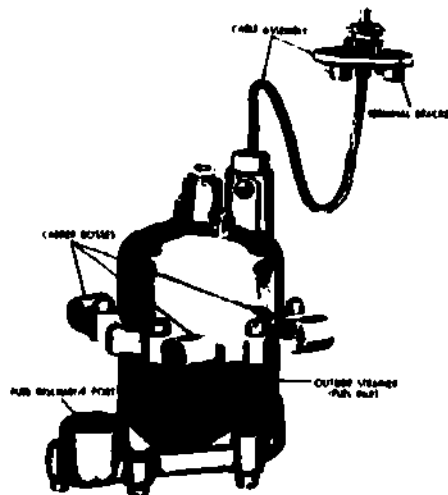

Fig 1-14. Electric fuel pump.
- (a) **Electric motor driven fuel pump (fig 1-14).** The electric-motor-driven pump is mounted in the fuel tank and is completely submerged when the tank is full. Current to operate the pump is supplied by either the battery or the generator whenever the ignition switch is closed. The armature used in this pump looks like a miniature starting motor armature. It is mounted vertically in the fuel pump housing.